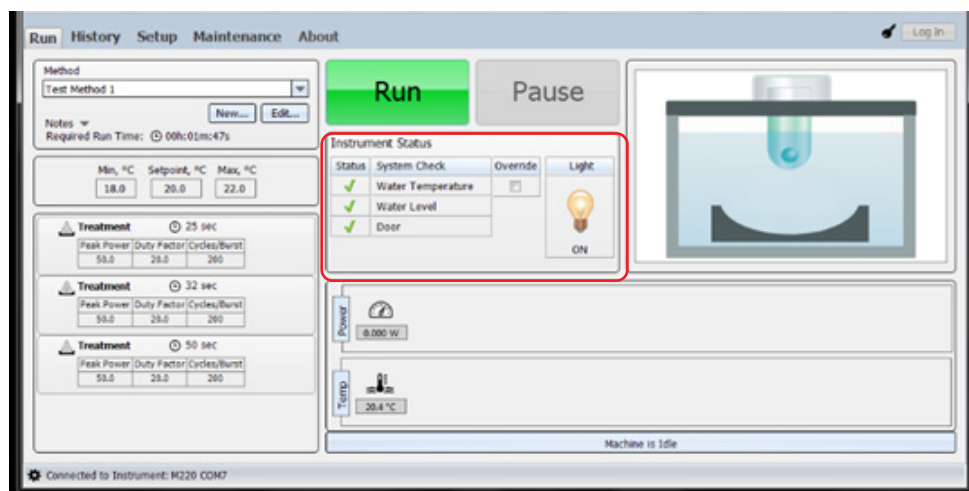

Figure 3.3 Instrument Status Panel and Instrument Light Control
The next three conditions are displayed in the Instrument Status panel (see **Figure 3.3**) of the Run Screen. An acceptable condition is indicated by a green check mark (✓) in the Status box. If a condition is not acceptable, the status will show (X).